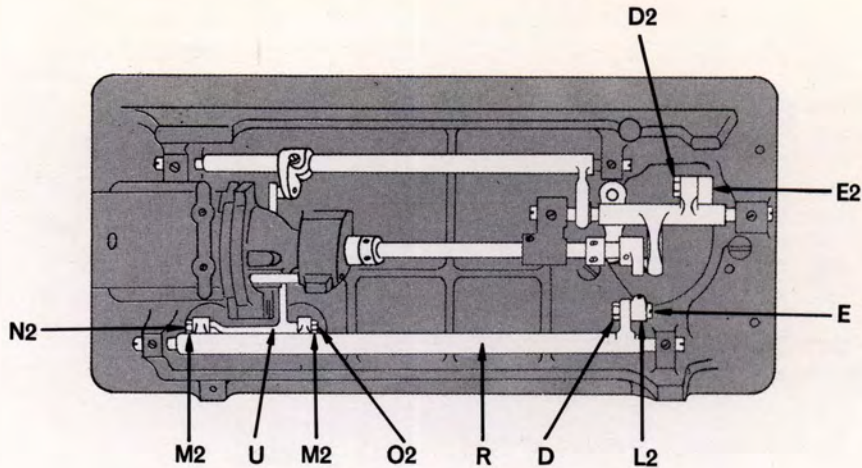

Fig. 27.
**REMOVAL:** (See Fig. 27)
1. Loosen nut D2, Fig. 27, page 17, and remove screw stud E2, Fig. 27, page 17.
3. Replace screw stud E2, Fig. 27, page 17, engaging connecting rod with oscillating rock shaft.
#### REMOVAL: (See Fig. 27, page 16)